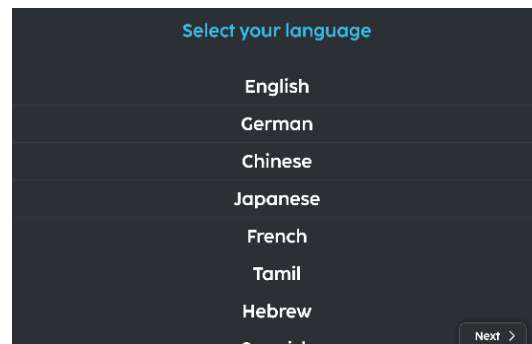

FIGURE 3-6
2. Scroll down and select your language (Fig. 3-6).